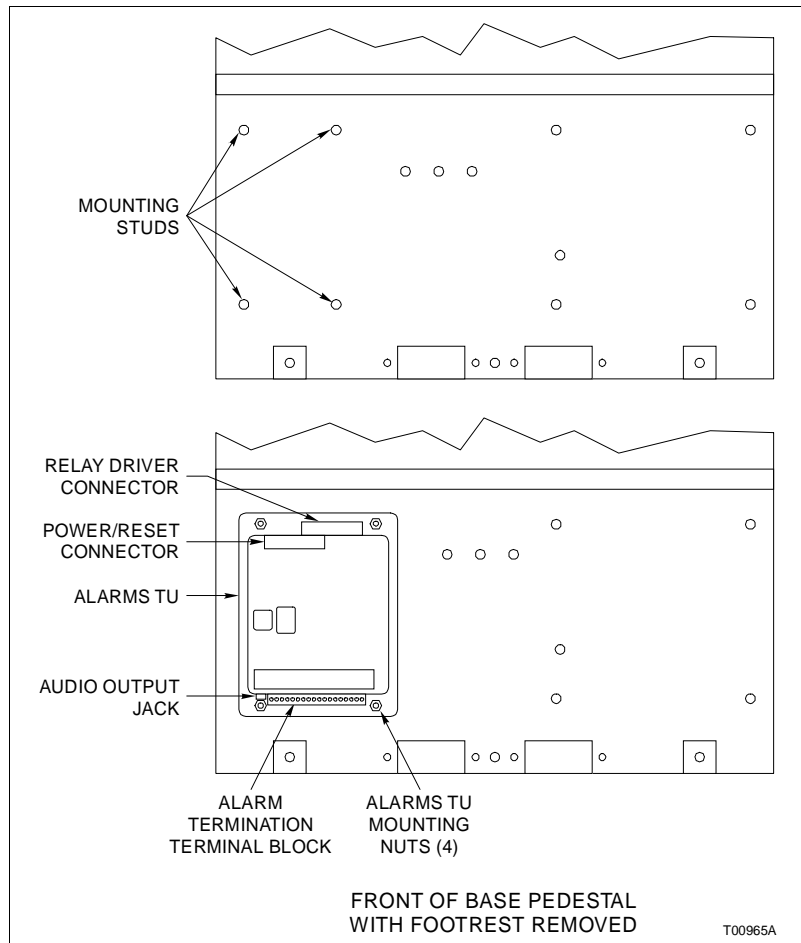

Figure PR11-1. Alarms TU Installation
3. Remove the alarm termination terminal block (Fig. PR11-1) from the alarms TU to be installed.